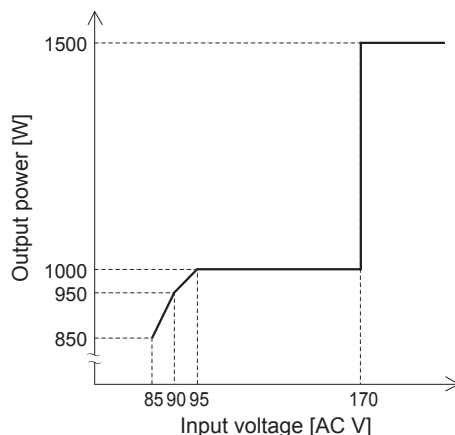

Fig.2.1 Input voltage derating curve
■ Fig.2.1 shows rated output for each input voltage section.